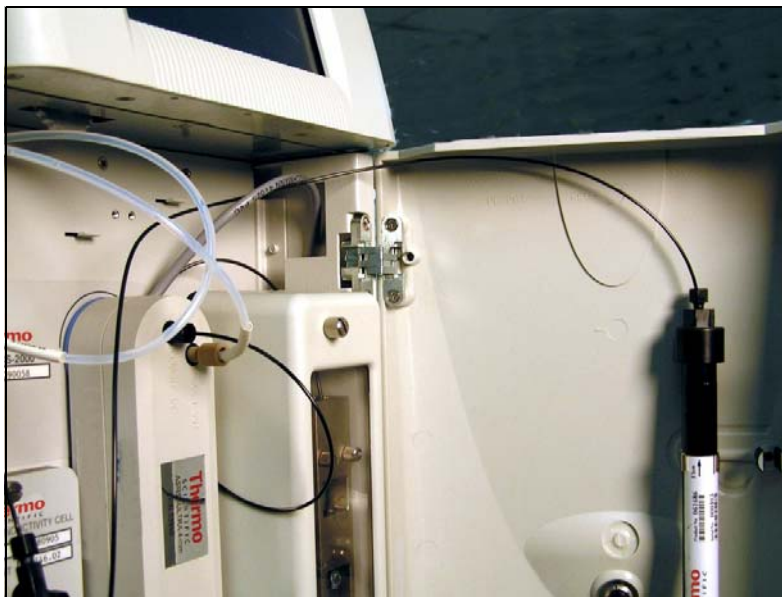

Figure 97. Mixer Outlet Routed to the Back of the Component Panel
2. Route the mixer outlet line to the back of the component panel (see Figure 97).
3. Connect the mixer outlet line to port **P (2)** on the injection valve.